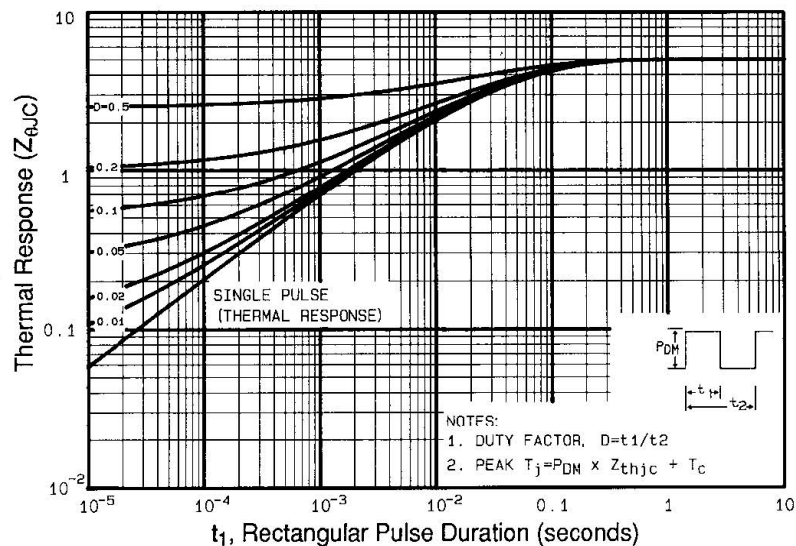

Fig 11. Maximum Effective Transient Thermal Impedance, Junction-to-Case
① Repetitive rating; pulse width limited by max. junction temperature (See Figure 11)
② $V_{DD}=50V$, starting $T_J=25^\circ\text{C}$, $L=28\text{mH}$